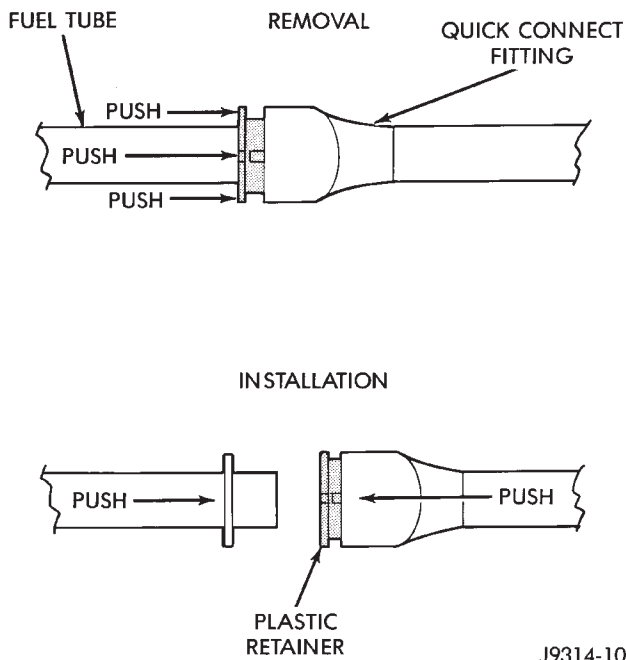

Fig. 11 Plastic Retainer Ring Type Fitting
This type of fitting can be identified by the use of a full-round plastic retainer ring (Fig. 11) usually black in color.
(2) Disconnect negative battery cable from battery or auxiliary jumper terminal.
(3) Clean fitting of any foreign material before disassembly.
(4) To release fuel system component from quick-connect fitting, firmly push fitting towards component being serviced while firmly pushing plastic retainer ring into fitting (Fig. 11). With plastic ring depressed, pull fitting from component. **The plastic retainer ring must be pressed squarely into fitting body. If this retainer is cocked during removal, it may be difficult to disconnect fitting. Use an open-end wrench on shoulder of plastic retainer ring to aid in disconnection.**
(5) After disconnection, plastic retainer ring will remain with quick-connect fitting connector body.
(6) Inspect fitting connector body, plastic retainer ring and fuel system component for damage. Replace as necessary.
(7) Prior to connecting quick-connect fitting to component being serviced, check condition of fitting and component. Clean parts with a lint-free cloth. Lubricate with clean engine oil.
(8) Insert quick-connect fitting into component being serviced until a click is felt.
(9) Verify a locked condition by firmly pulling on fuel tube and fitting (15-30 lbs.).
(10) Connect negative battery cable to battery or auxiliary jumper terminal.
(11) Start engine and check for leaks.